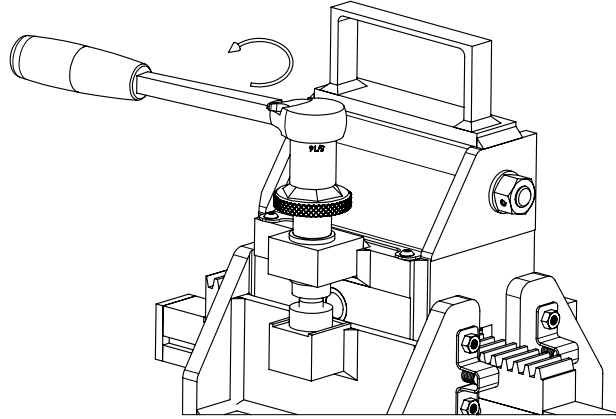

Figure 12: Turn the height adjustment knob to disengage the screw thread
- a. Turn the height adjustment knob counter-clockwise until the screw thread disengages from the brass nut (**Figure 12**).